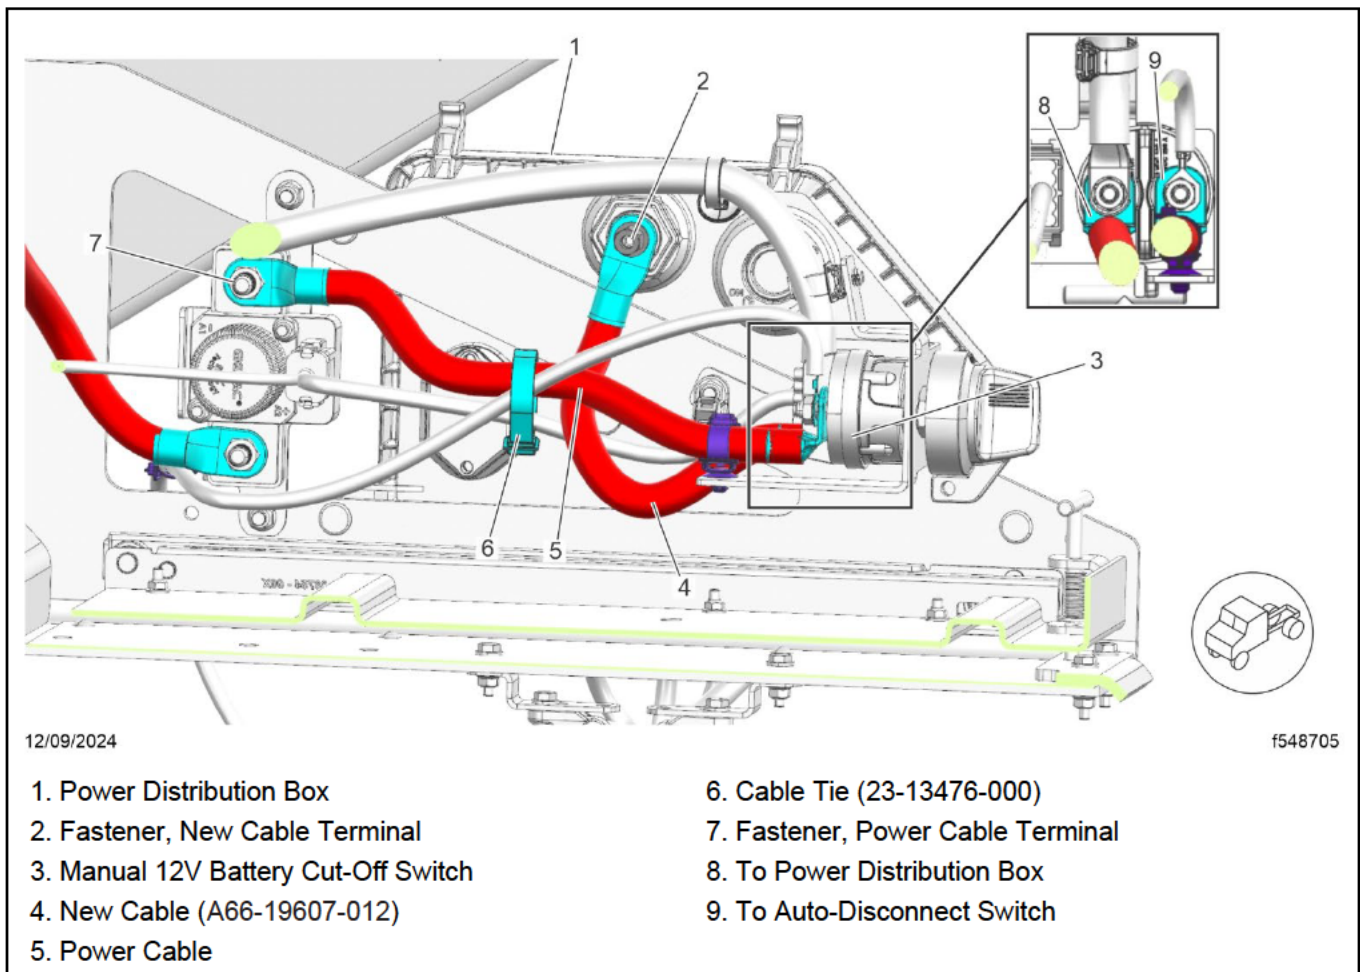

Fig. 7, Connecting the Power Cable and the New Cable
15. Connect the open end of the power cable (A66-19607-015) to the upper terminal on the ALVD switch, as shown in **Fig. 7**. Tighten the fastener 20 lbf-ft (27 N·m).
16. Connect the new cable (A66-19607-012) to the power distribution box, as shown in **Fig. 7**. Tighten the fastener 27 lbf-ft (37 N·m). Connect the other end of the cable to the open post on the manual battery cut-off switch. Do not tighten the fastener.
22. Use cable tie (23-13476-000), item 6 in **Fig. 7**, to secure all three cables.